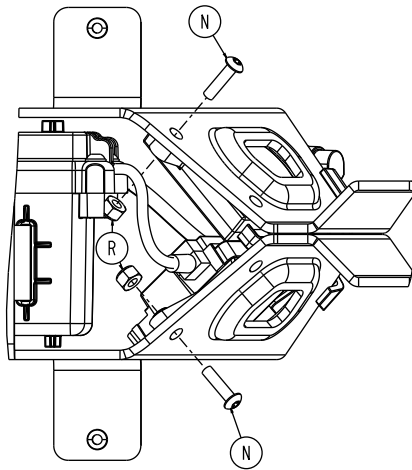

Figure 53 – Remove the wireless module screw and nut
7. Using a T25 Torx driver and a 3/8" combination wrench, remove the button head cap screw (N) and Fiberlock nut (R) that secure the wireless module, if equipped, and the NFMIC module to the cot, if equipped (Figure 53). Save the screw and nut.